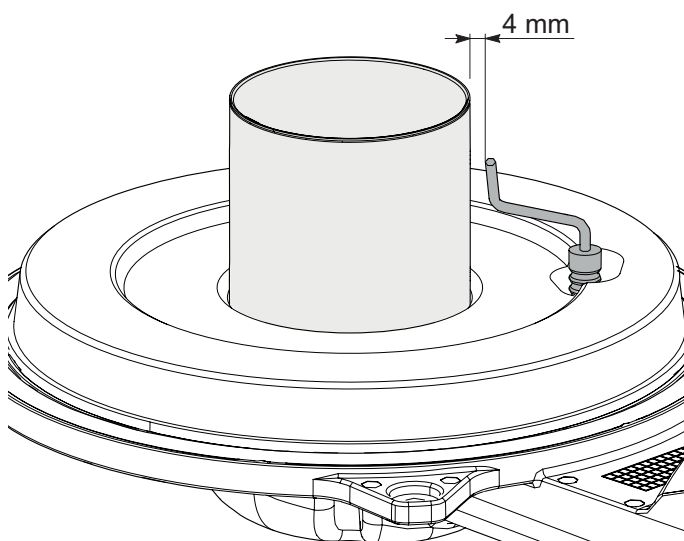

Figure 18.6
- 1 Check for the correct distance between the metallic edge of the electrode and burner (see Figure 18.6).
The electrode in Figure 18.6 also functions as a sensor for the correct drainage of the condensate.